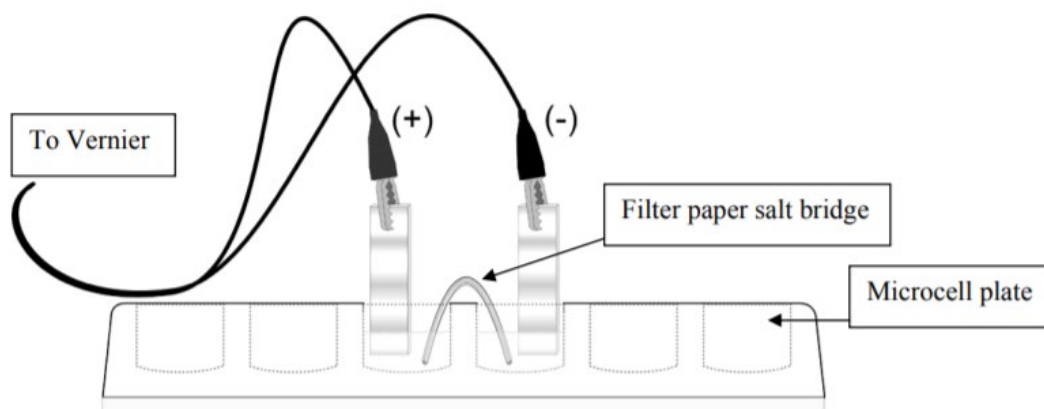

Figure 3: Galvanic cell apparatus for Part A.
You will construct a series of galvanic cells, making all possible combinations of the different metal half-reactions (Cu, Fe, and Zn). You will measure the cell potentials, E°_{cell} , using a Vernier voltage probe, as shown in Figure 3. You will use the 1.0 M solutions for both half-cells, so $Q=1$, and $\ln Q = 0$ for the reaction. Thus, the cell potential measured will be the same as E°_{cell} , as evident from the Nernst Equation (5).
- 2) Place the salt bridge so that it will be immersed into each of two solutions in adjacent wells of a 12-well microcell plate (see Figure 3 below).